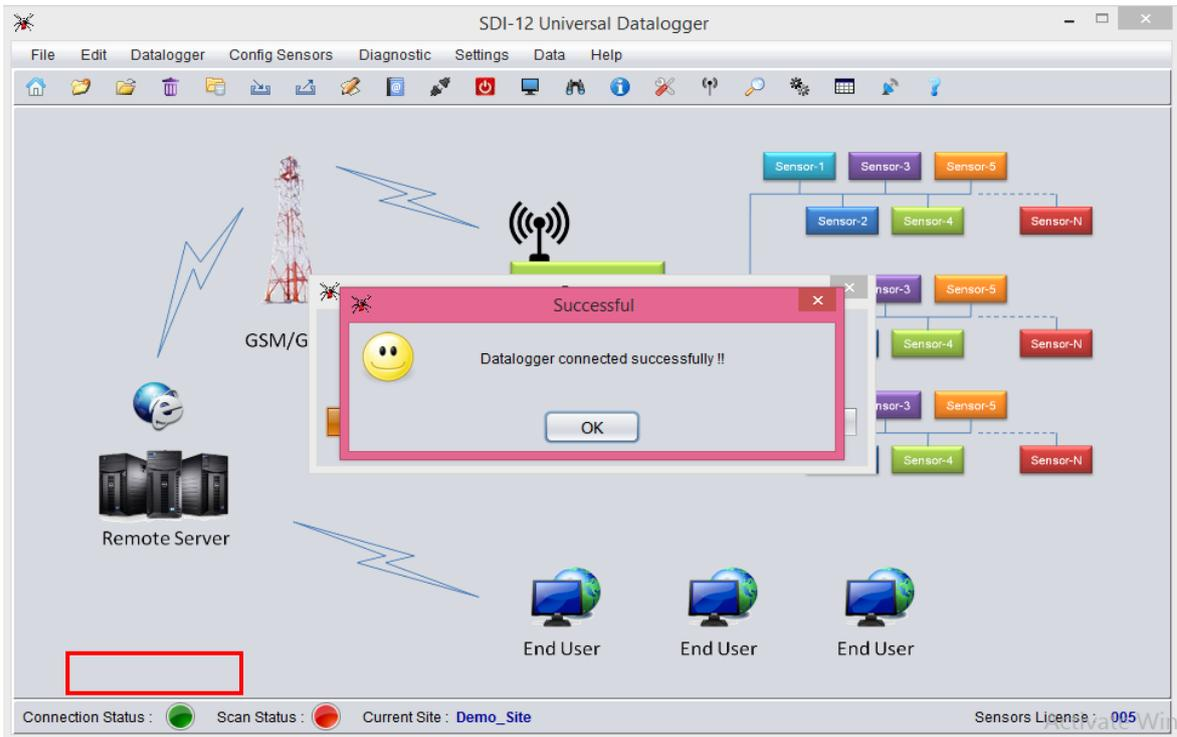

Figure 7-5 Datalogger connection status on EDSL-30UNI Configuration Manger Software
- Confirmation window showing Datalogger connection status will appear. Then click "OK" button. This will change the "Connection Status" from Red to Green (displayed at the bottom left in figure 7-5 below).